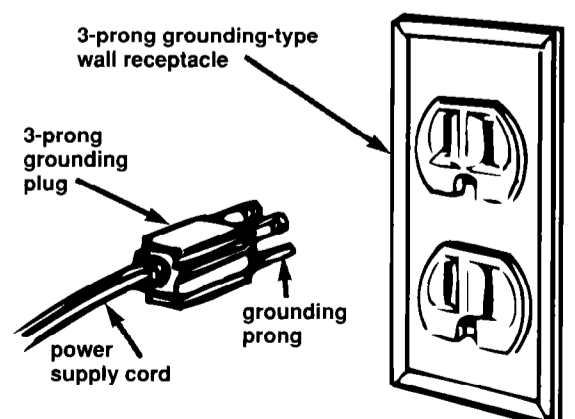

Figure 1
- This appliance is equipped with a power supply cord having a 3-prong grounding plug. To minimize possible shock hazard, the cord must be plugged into a mating 3-prong grounding-type wall receptacle, grounded in accordance with National Electrical Code, ANSI/NFPA 70-latest edition and all local codes and ordinances. See Figure 1. If a mating wall receptacle is not available, it is the personal responsibility and obligation of the customer to have a properly grounded 3-prong wall receptacle installed by a qualified electrician.